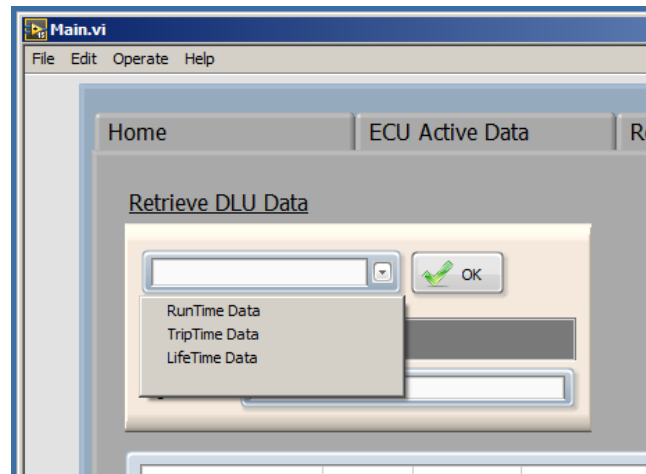

Figure 14
1. From the “Retrieve DLU Data” drop-down menu (Figure 14) select the following option: